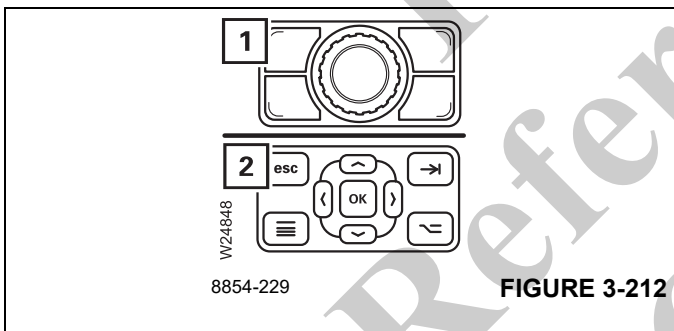

FIGURE 3-212
Press button (1), (Figure 3-212) on the jog dial or (2), (Figure 3-212) on the control panel.